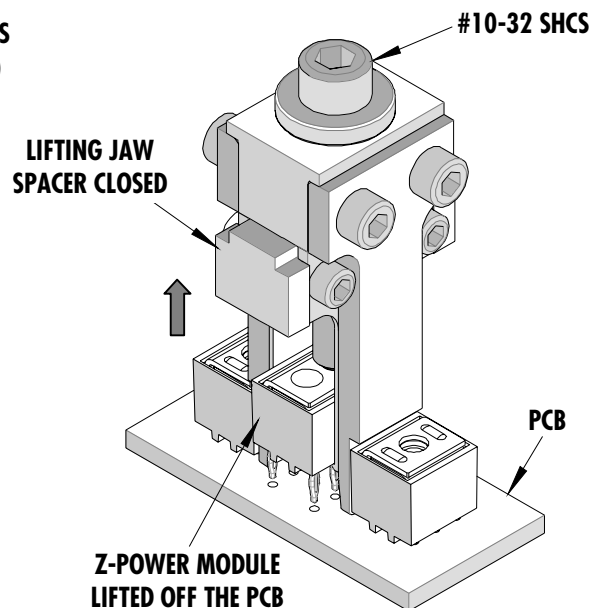

Figure 4
- Continue turning the #10-32 SHCS until the power module is removed from the printed circuit board. See Figure 4.